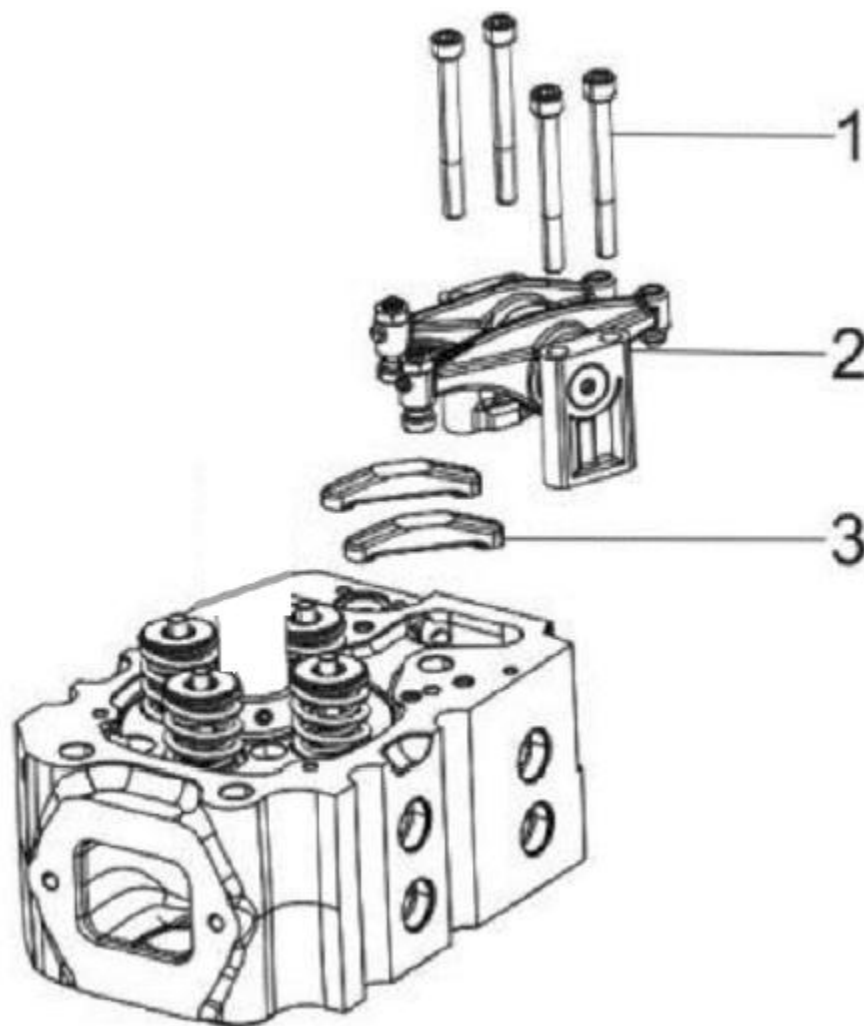

Figure 41. Rocker Arm Assembly
1. Remove the bolts (Figure 41, Item 1) that retain the rocker arm shaft support.
2. Remove the rocker arm shaft assembly (Figure 41, Item 2) from the cylinder head.
3. Remove the valve bridge (Figure 41, Item 3).